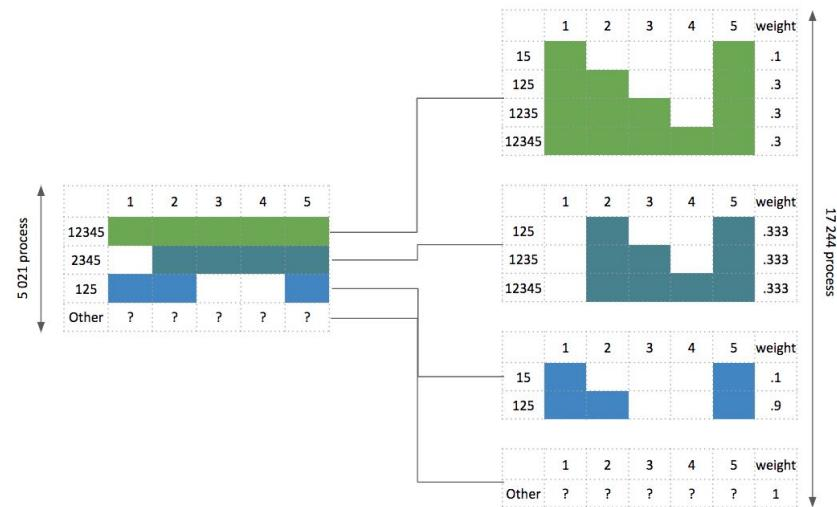

Fig 2: Subprocess generation scheme
- I associate weights according to test data distribution (See Fig 2)
- Fig 2 shows that with this reweighting, prediction are “shifted on the right”.